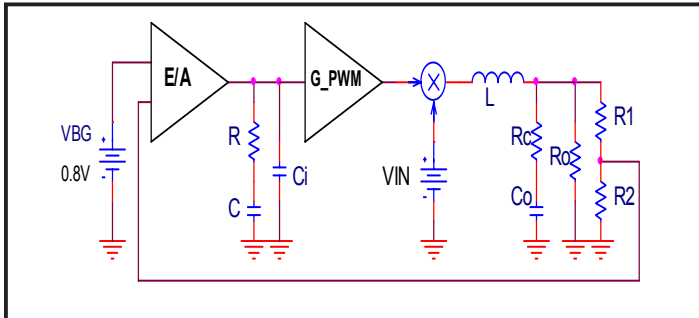

Fig. 4. SC2608 small signal model.
The control model of SC2608 is depicted in Fig. 4. This model can also be used to generate loop gain Bode plots. The bandgap reference is 0.8V and trimmed to +/-1% accuracy. The desired output voltage can be achieved by setting the resistive divider network, R1 and R2. The error amplifier is transconductance type with fixed gain of:
(6) The final step is to generate the Bode plot by using the simulation model in Fig. 4 or using the equations provided here with Mathcad. The phase margin can then be checked using the Bode plot.